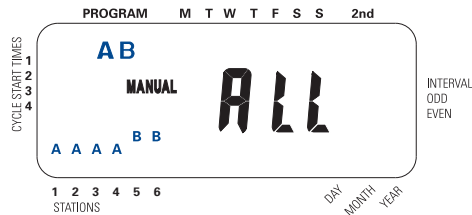

Figure 9: Manually running both programs A and B
- Turn the rotary dial to **AUTO**, then press the **MANUAL** key. The display will show “**AB**” and “**ALL**” blinking. [See Figure 9] This indicates all stations in the “**A**” and “**B**” programs will water for their assigned durations in sequence.